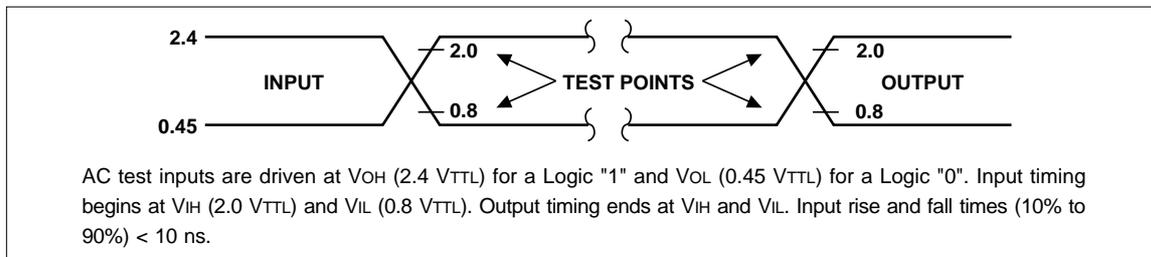

Fig. 11 Transient Input/Output Reference Waveform for V_{cc} = 5.0±0.5 V (Standard Testing Configuration)
1. See AC Input/Output Reference Waveform (Fig. 9 through Fig. 11) for maximum allowable input slew rate.